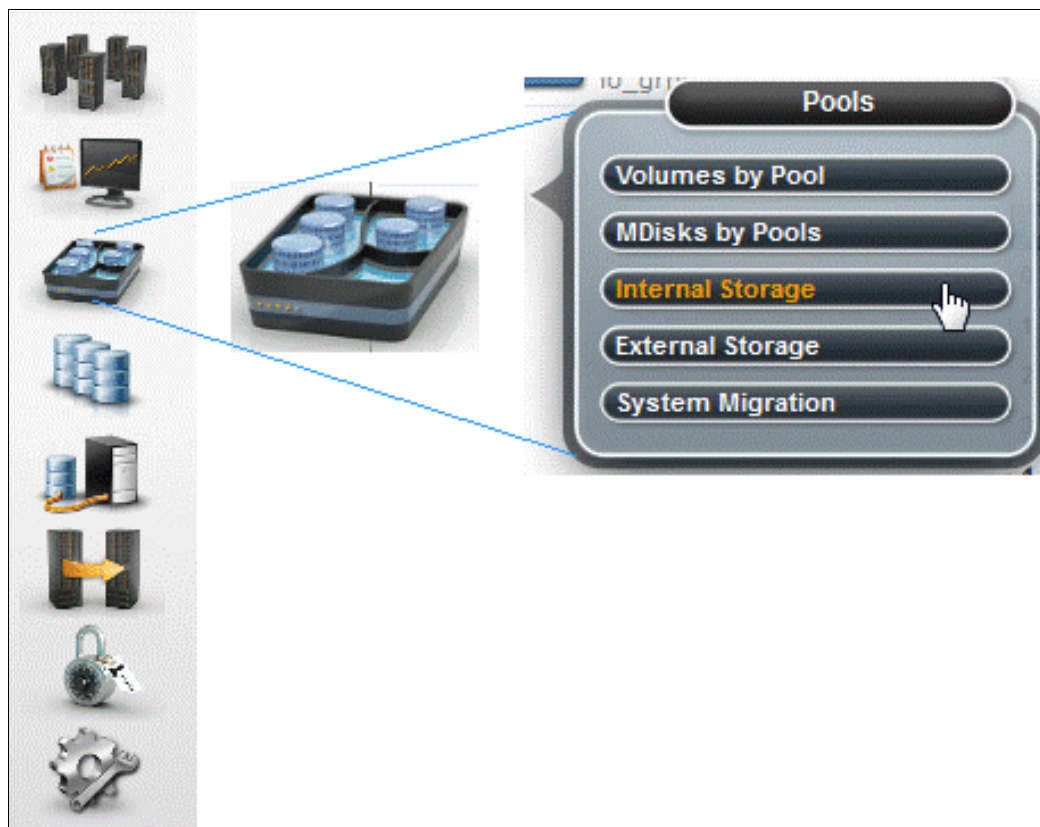

Figure 10-9 Pools menu
1. Hover your cursor over the Pools icon. The system displays the Pools menu (Figure 10-9).